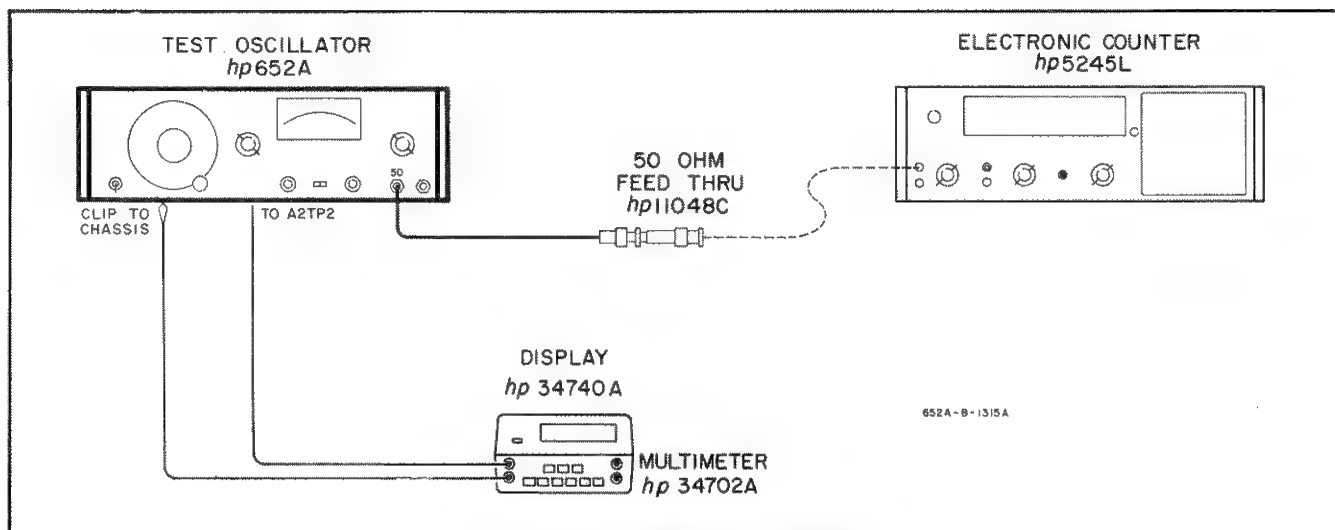

Figure 5-8. Frequency Calibration.
c. The frequency calibration setup is shown in Figure 5-8. Output frequency should be continuously monitored at the 50 ohm output with a counter. DC voltage at A2TP2 should also be monitored continuously, after Paragraph 5-28 has been performed.
- c. Connect equipment as shown in Figure 5-8 and set 652A controls same as Paragraph 5-28b.
- Connect equipment as shown in Figure 5-8.